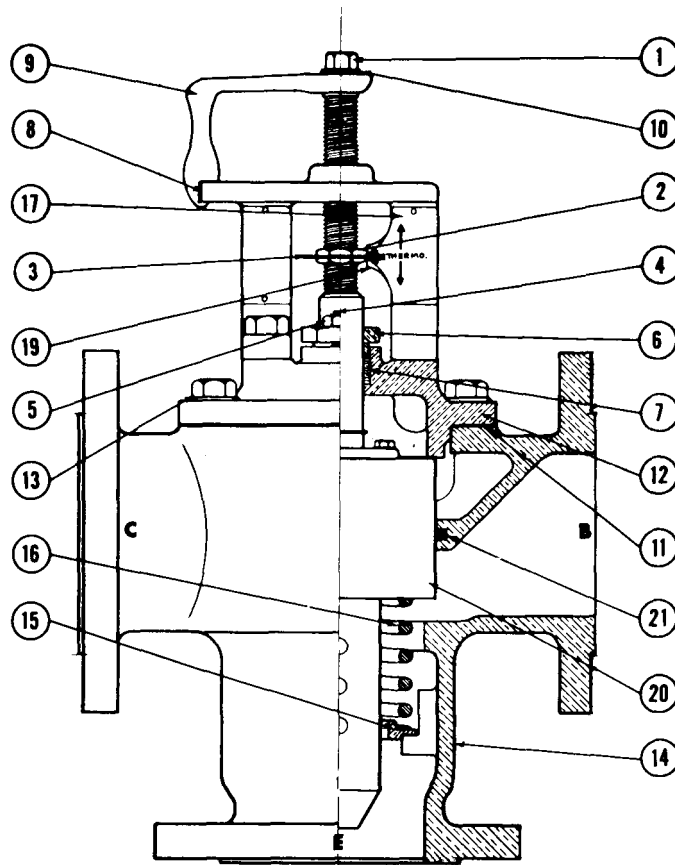

Figure 4
5. Reassemble as shown in Figures 4 through 7, depending on valve size.